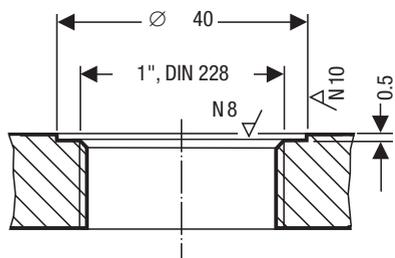

Fig. 4
5. Check seating surfaces of threads or flange provided on vessel or boiler standpipe. **Fig. 4**
6. Place joint ring **Ⓒ** onto seating surface of the threaded standpipe or flange. **Fig. 4**
- The seating surfaces of the standpipe or the flange provided on the vessel must be accurately machined, see **Fig. 4**